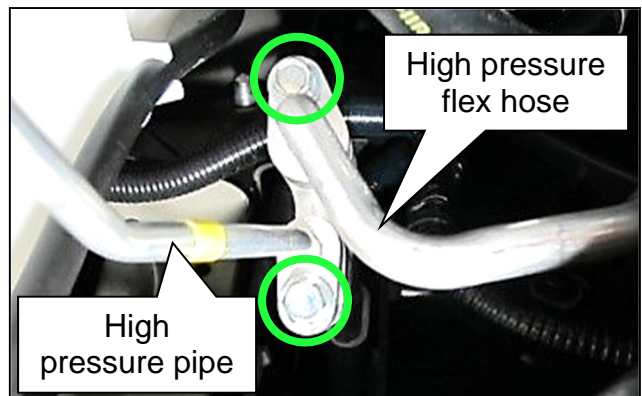

Figure 23
- d. Connect the high pressure pipe and the high pressure flex-hose connections (Figure 23).
- e. Install and torque the two (2) 12 mm retaining bolts for the high pressure pipe and the high pressure flex-hose connections.